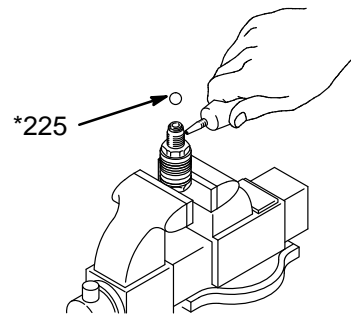

Fig. 25 02568
3. Apply one drop of Loctite to the threads. Place the ball (225\*) on the piston valve. See Fig. 25.